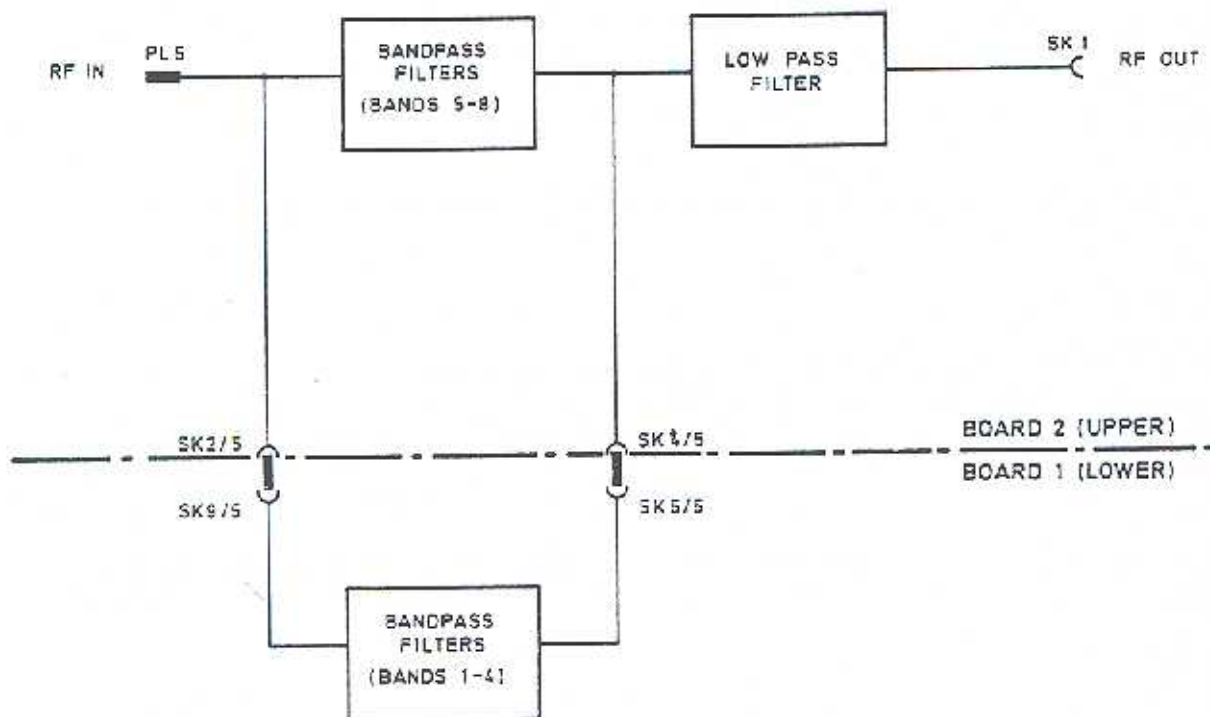

Fig.1 RF path between boards 1 and 2
4. Four of the eight BPF's are located on each board and the RF path between the boards is illustrated in Figure 1.